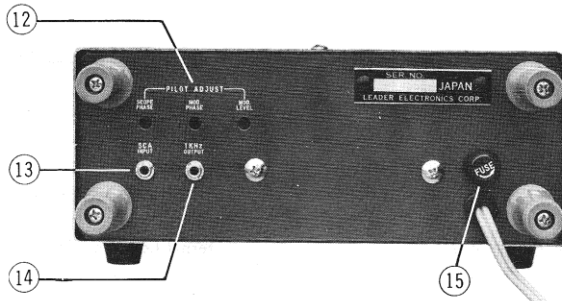

Fig. 1-2 Rear panel controls.
- ⑧ COMPOSITE OUTPUT jack: All signals as selected with the FUNCTION switch and the pilot signal are available at this jack. The output is used in checking stereo multiplex circuits.
- ⑨ FREQUENCY SET adjuster: Used in adjusting the RF carrier frequency; nominally set at 100MHz, adjustable range is  $\pm 1\text{MHz}$ .
- ⑩ RF LEVEL switch: Three positions for setting the RF output at approximately 10mV, 1mV and 0.1mV, at HIGH, MEDIUM and LOW respectively.
- ⑪ RF OUTPUT connector: BNC type for connection to the RF output cable; output impedance is  $75\Omega$ .
B. Rear Panel, Fig. 1-2